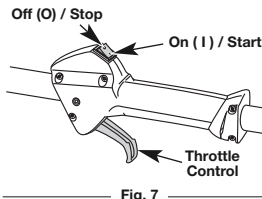
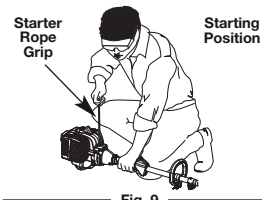

Fig. 7
Fig. 9
**WARNING:** Avoid accidentally starting the unit. To avoid serious injury, the operator and the unit must be in a stable position when pulling the starter rope (Fig. 9).
- NOTE:** There is no need to turn the unit on. The On/Off switch is in the ON (1) position at all times (Fig. 7).
- Crouch in the starting position (Fig. 9).
- Squeeze the throttle control (Fig. 7) and pull the starter rope with a controlled and steady motion **5 times** (Fig. 9).
- Press and hold the On/Off switch in the OFF (O) position until the engine comes to a complete stop (Fig. 7).